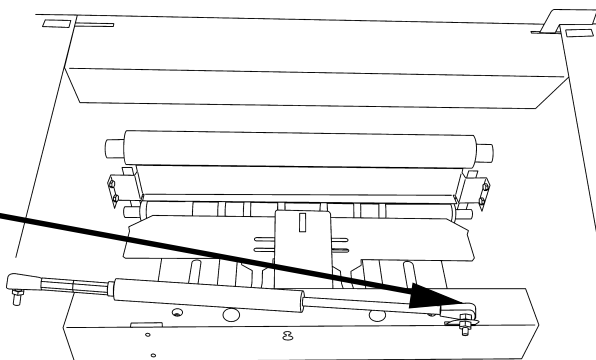

Figure 1, Gas spring
2. Install the new and shorter Gas spring from the installation kit, to the black bracket in the machine, according to Figure 1.